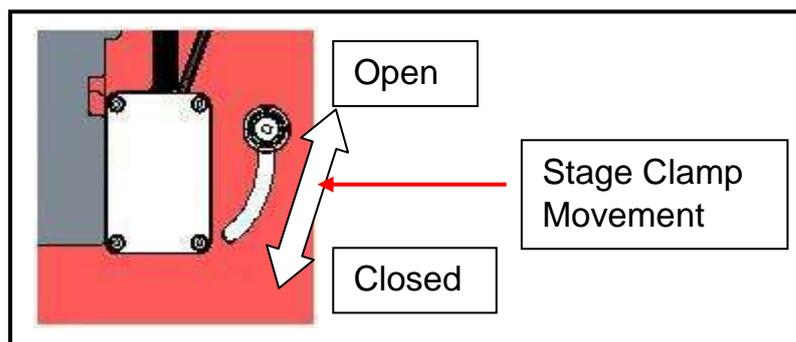

Fig: 35
18. Move the gripper arm down the Y axis until it come to rest just above the motorised microscope stage. **NOTE: Make sure that the stage clamp is in the open position (Fig35)**